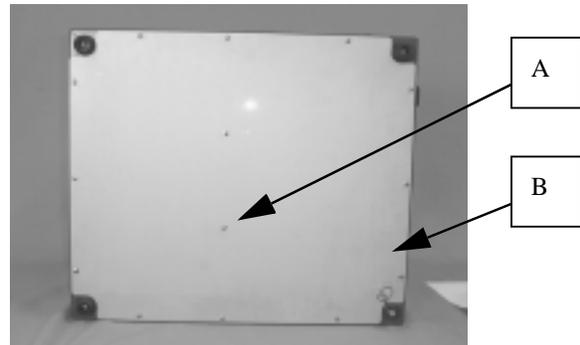

FIGURE 5-1
1. Remove the bottom plate(B) by removing 14 bind screws 4x5 (A). Fig.5-1